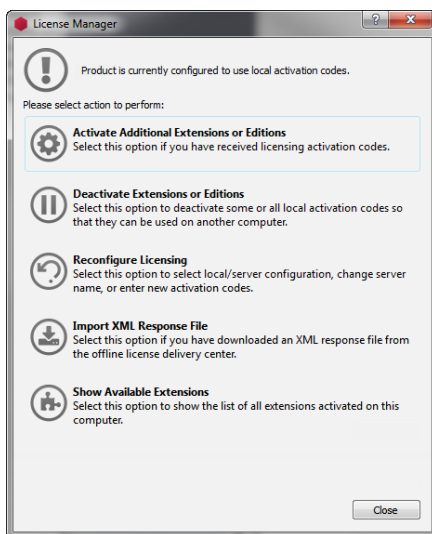

Figure 1.15: License Manager Dialog Offline
- Select *Help* > *License Manager* and click **Activate Additional Extensions or Editions** (see Figure 1.15).
- Open the *Help > License Manager* (see Figure 1.15)